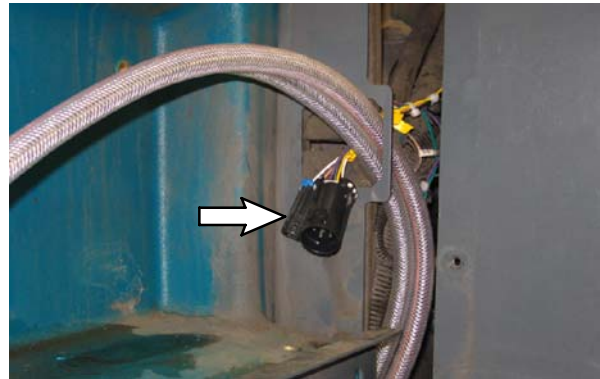

FIG. 6
27. Route *ec-H20* harness *ec-H20* assembly leads into the the operator compartment. Refer to Fig. 6.